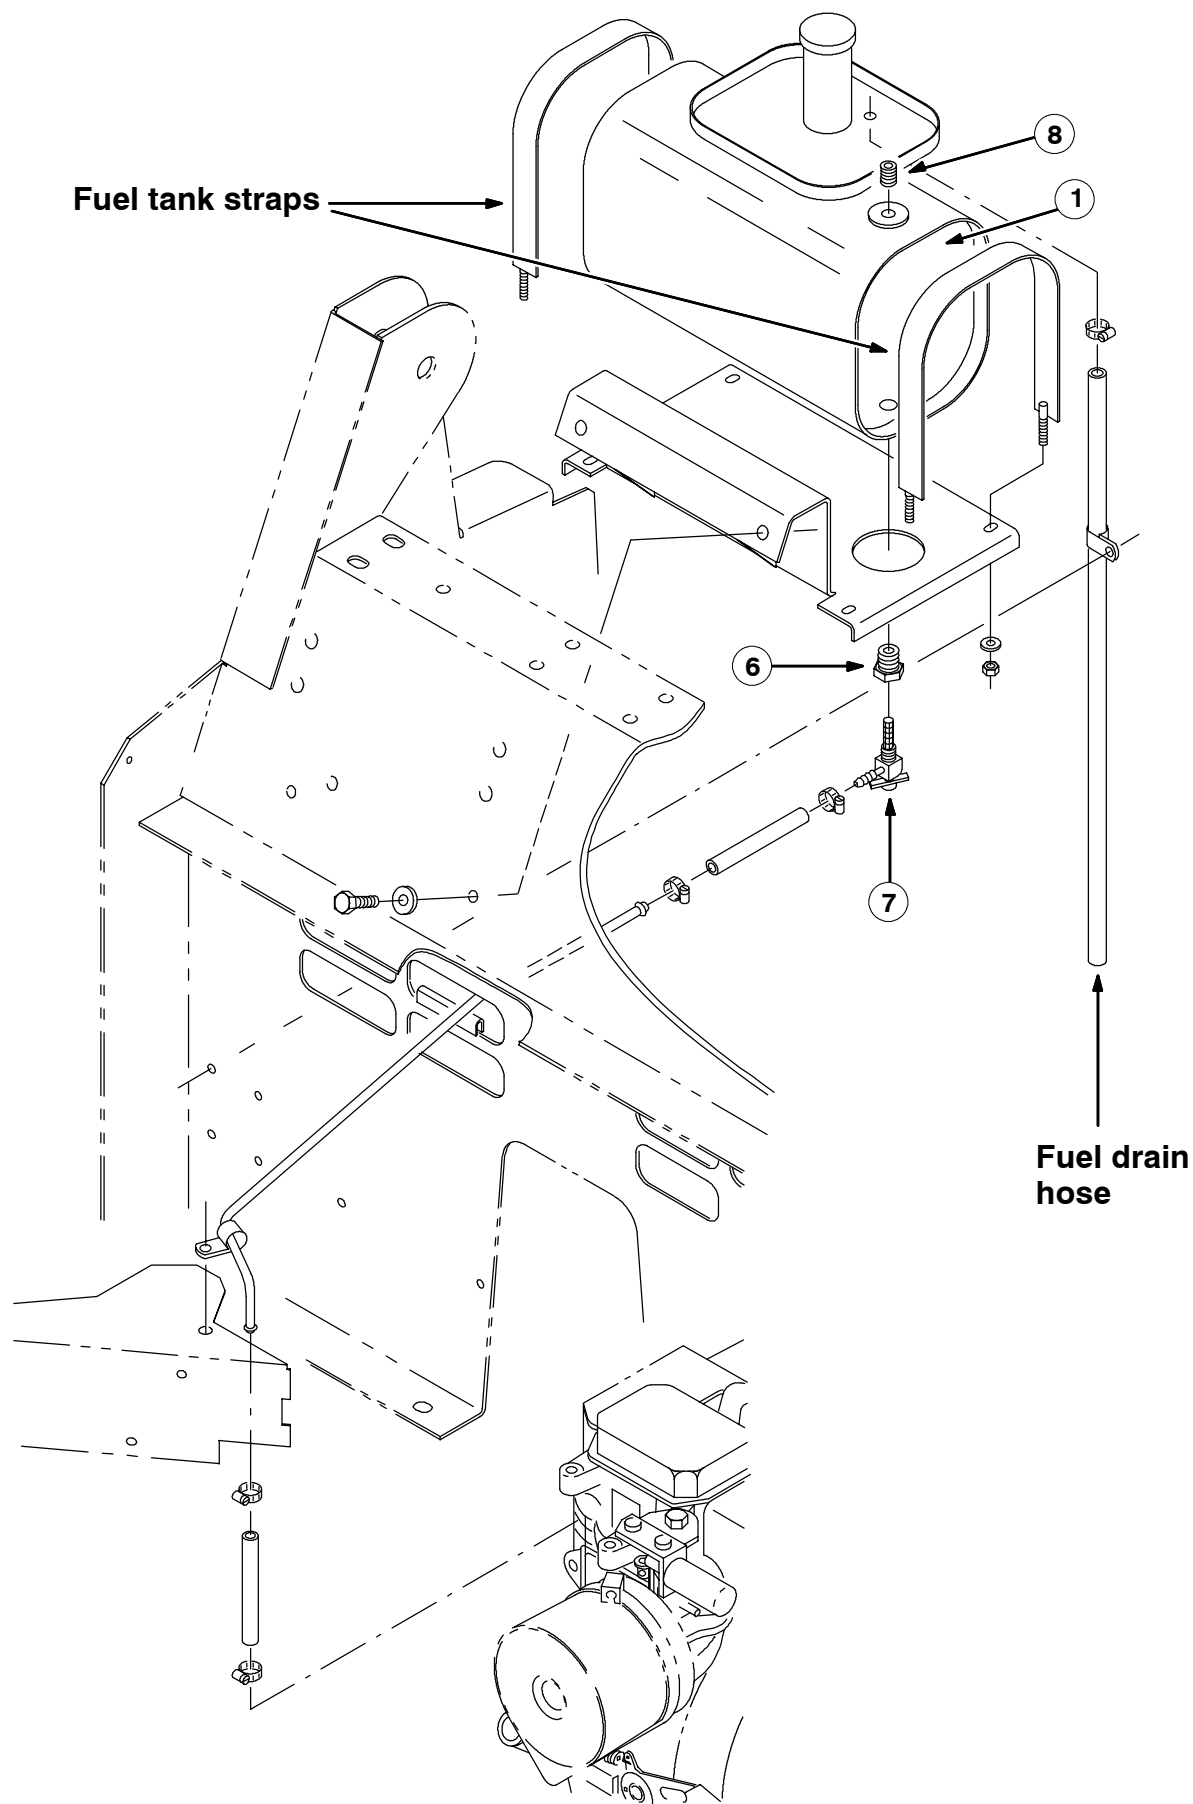

FIG. 7 - FUEL TANK GROUP, GAS, 6200
19. Unplug the fuel line, and connect it to the new fuel valve (7). (Refer to FIG. 7)
20. Replace the securing straps around the new fuel tank (1). (Refer to FIG. 7)
21. Install the drain hose for the fuel tank cover. Fill the new fuel tank (1) with gasoline. (Refer to FIG. 7)